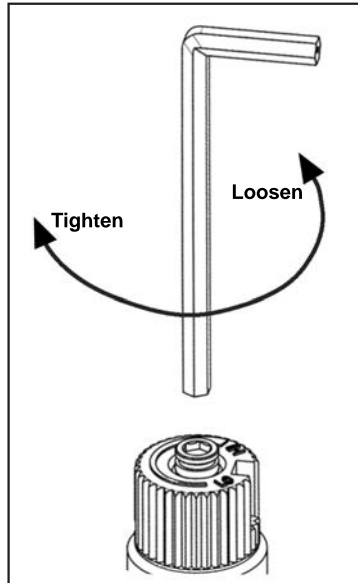

Figure 17: Removing valve screw.
- b) Insert a  $\frac{5}{32}$ " or 4 mm Allen wrench into the hexagonal key-way of the screw (see Figure 17), rotate it counter-clockwise until it is free and extract it.
- e) Using the Allen wrench as shown in Figure 17, rotate the screw clockwise until a torque of 9 inch lbs. **WARNING!** Do not over tighten the screw. It is recommended that you grip the wrench by the short side.